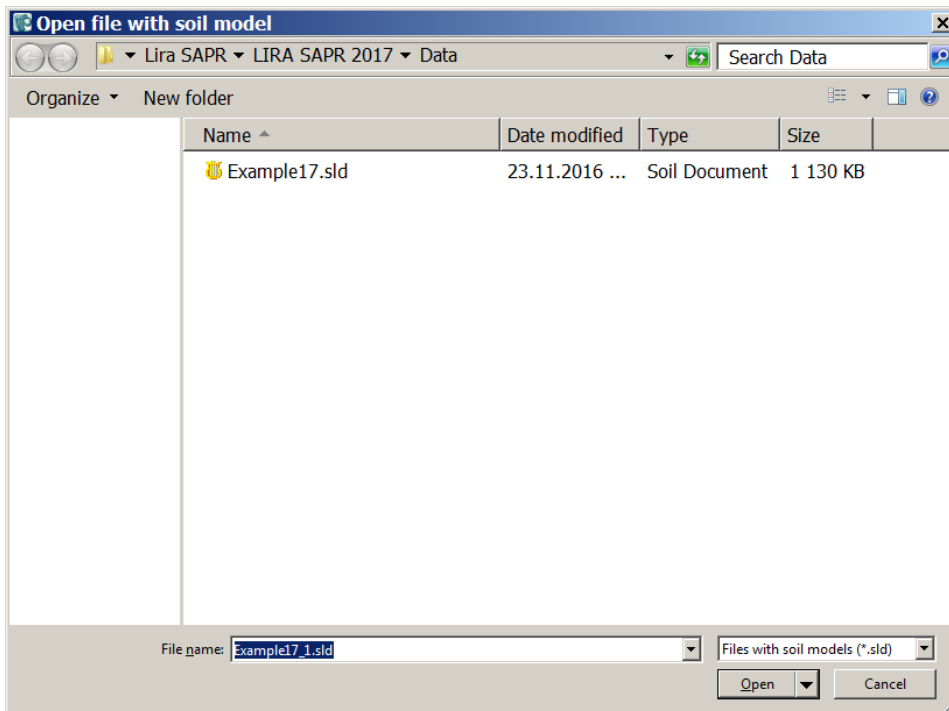

Figure 17.4. **Open file with soil model** dialog box
- ⇒ In the **Open file with soil model** dialog box (see Fig. 17.4), select the row *Example17.sld*.
- ⇒ In the **Open file with soil model** dialog box (see Fig.17.4), select the file *Example17.sld*.